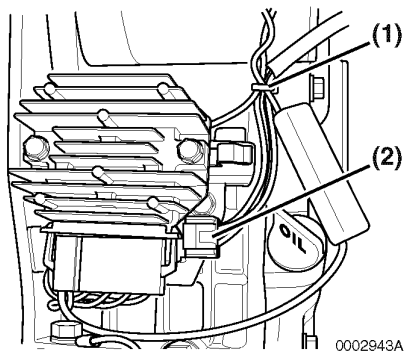

Figure 7-47
7. Connect the wire harness connector from control panel to rectifier (**Figure 7-47, (2)**) and secure with a tie strap (**Figure 7-47, (1)**).